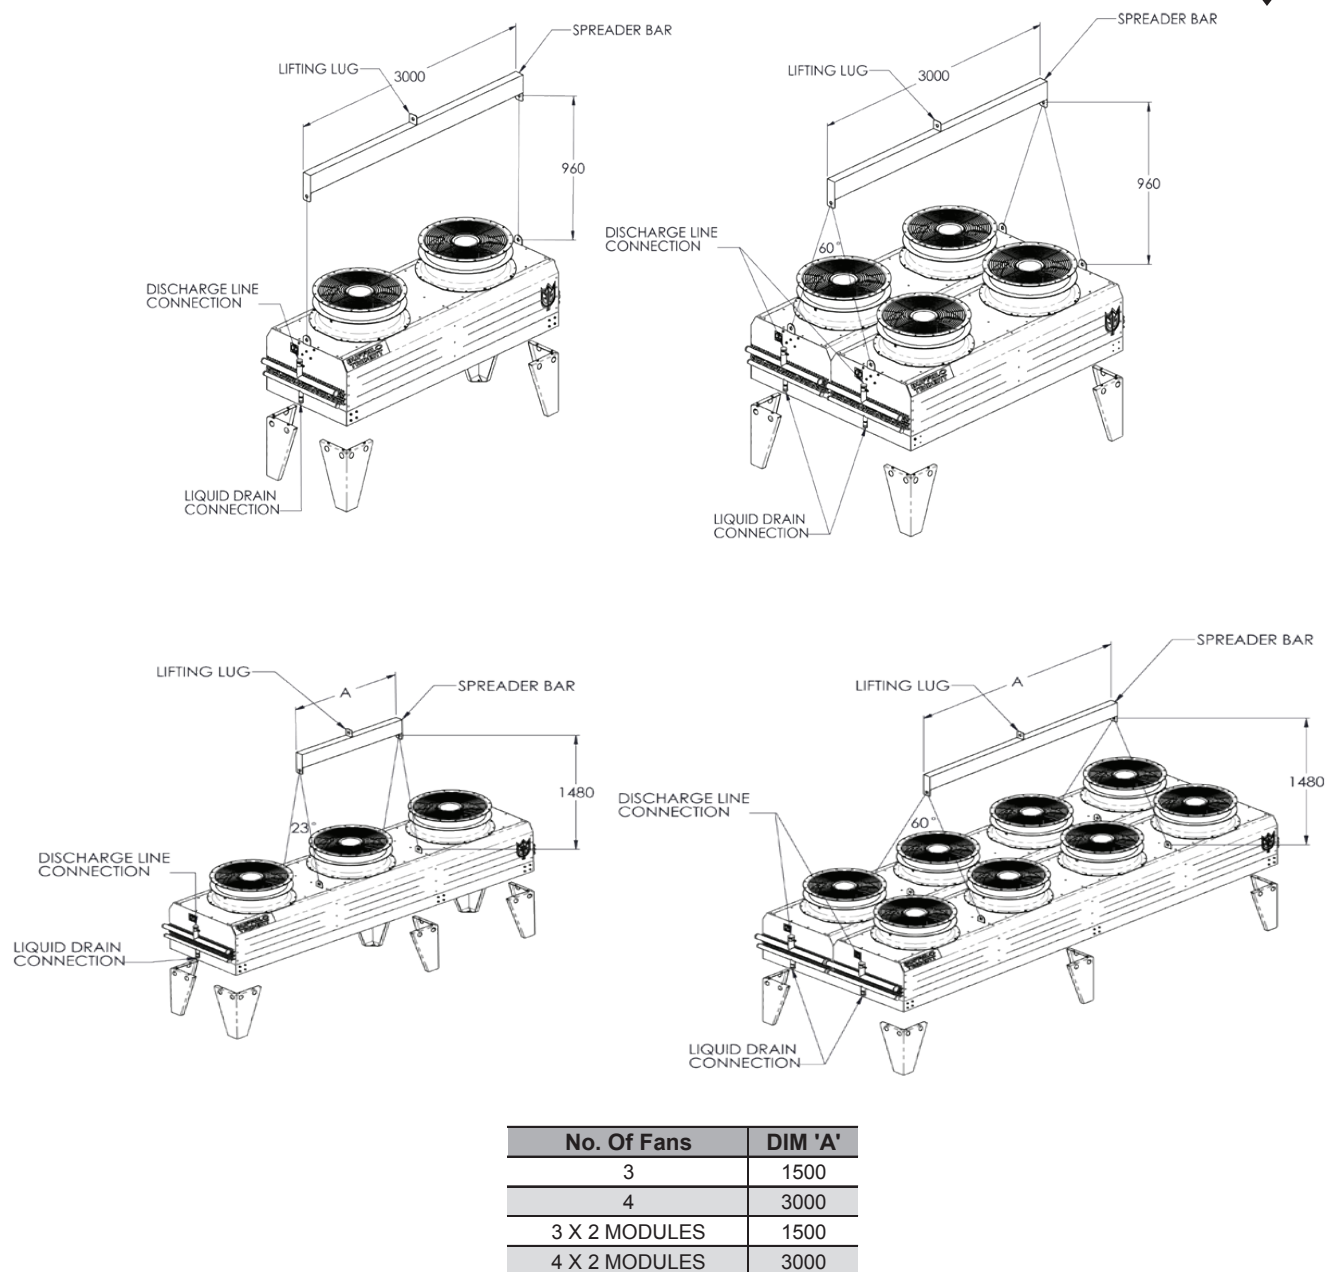

Figure 1
- Using an appropriate lifting device (refer **Figure 1** for recommended lifting methods), attach the legs to the condenser using the bolt kit supplied.